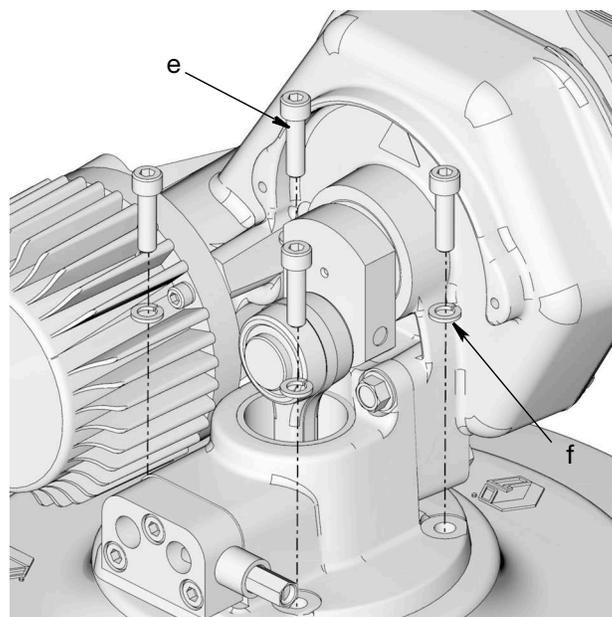

FIG. 12
17. Replace screws (e) and washers (f) and torque wrench, 28 +/- 3 ft-lbs, tighten securely (FIG. 12).